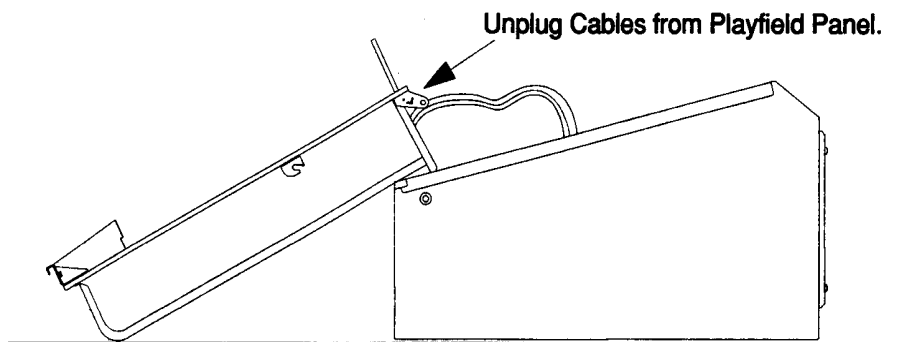

FIGURE 5
4. Unplug the cables from the bracket on the back of the playfield and pull the playfield away. See Figure 5, above.